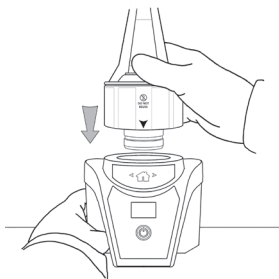

Figure 4
4. Attach the Disposable Unit to the Centrifuge; the Position Arrow on the Disposable Unit must be aligned with the Home Position  on the Centrifuge (Figure 4).